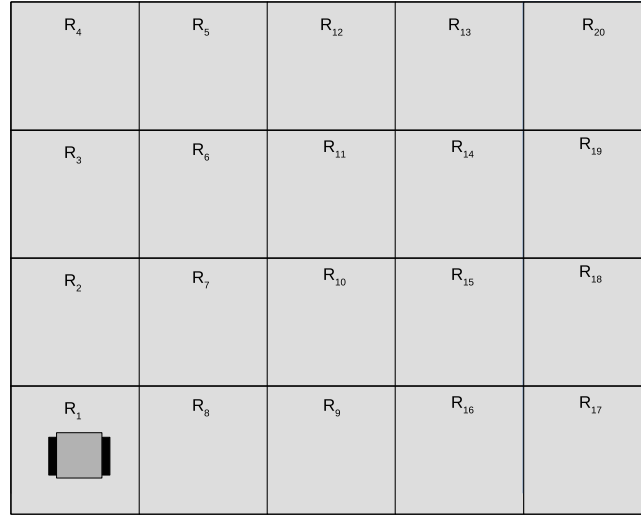

Figure 4: Workspace discretization in rectangular regions
First, we need to provide a discretization of the workspace into regions that will resemble the states of our  $\mathcal{T}$ . The discretization that we consider is  $R = \{R_1, \dots, R_K\}$ , i.e.,  $K$  equally sized rectangular regions, as illustrated in Figure 4. The workspace that the robot operates is a 2D rectangle, centered at  $(0, 0)$ , with dimensions  $3 \times 3\text{m}^2$ .
**Task 2 (8p).** *Given the aforementioned specifications, and the fact that the largest dimension of the robot is approximately 38 centimeters, propose a Transition System of the form  $\mathcal{T} = (S, S_0, \Sigma, \rightarrow, AP, \mathcal{L})$ . Specify also the number  $K$  of regions as well as its dimensions. The numbering of the regions should be done as in Figure 4. Also, take into account the fact that during a transition between two regions, the robot should always remain in these two regions. Finally, provide a graphical illustration of the discretized*
workspace (as in Figure 4) along with the atomic propositions  $\Pi$  that are true in each state.